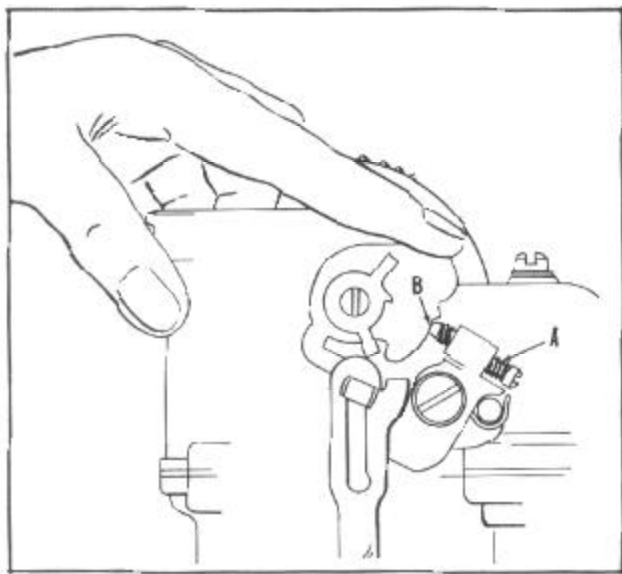

FIGURE 35
3. Hold choke valve open and press down on fast idle cam until idle adjusting screw (A) is seated on the lower step of cam (B), Figure 35.